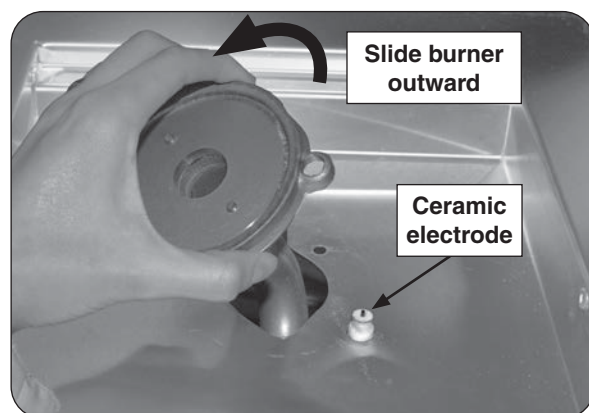
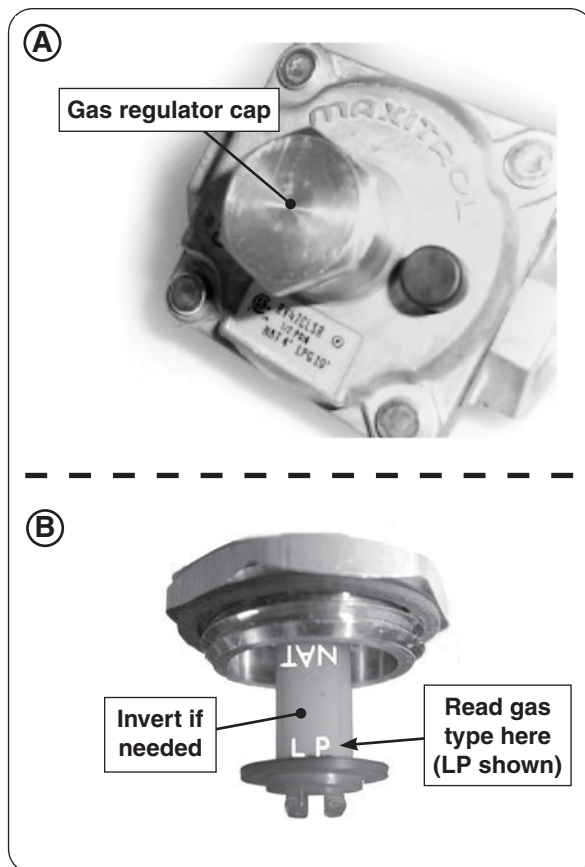

Fig. 33-2 Remove burner
Fig. 33-1 Convert regulator
5. Carefully lift the burner up and out, clearing the ceramic electrode (see Fig. 33-2), and pulling the burner tube away from the orifice located on the left side of the unit.
The gas regulator, located behind the control panel (see CONTROL PANEL REMOVAL section), must be set for the type of gas used to fuel the unit. To check the regulator setting, remove the cap in the center of the regulator (Fig. 33-1, A). Holding the cap vertical (see Fig. 33-2, B), the letters at the bottom of the plastic stalk indicate the gas type for which the regulator is currently configured.